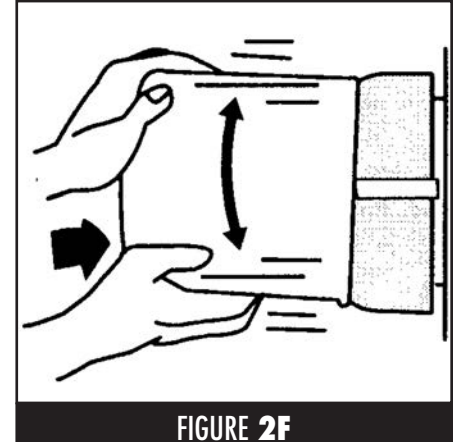
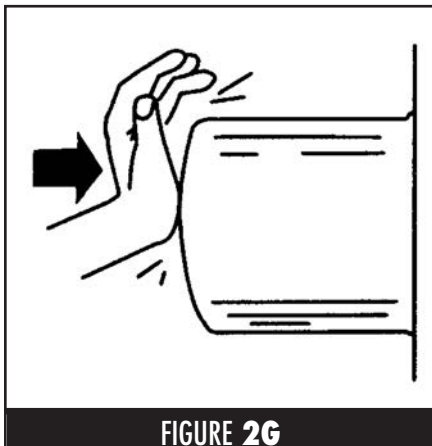

FIGURE 2F
FIGURE 2G
- With both hands on each side of the high hat, use a slight twisting and wobbling motion pushing high hat over foam until it has seated against the wheel. (See Figure 2F) **Note:** If foam shows a slight bulge between wheel and high hat, back up a little and use an up and down and side to side motion until foam completely slides under high hat. Using the palm of your hands make sure the high hat is firmly against the wheels. (See Figure 2G)